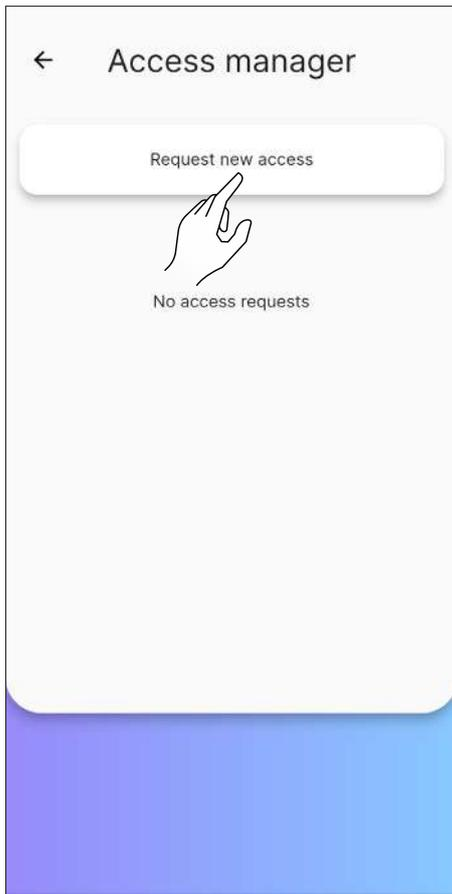

Fig. 8.28
- on the “Access manager” screen, click on “Request new access” (Fig. 8.28)